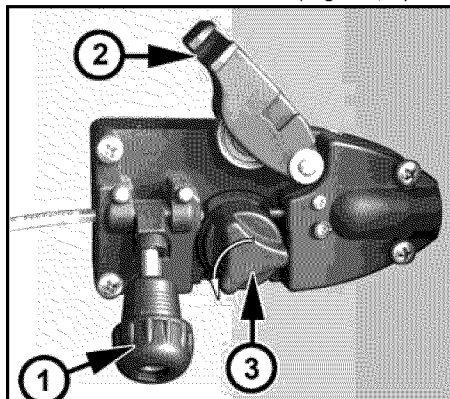
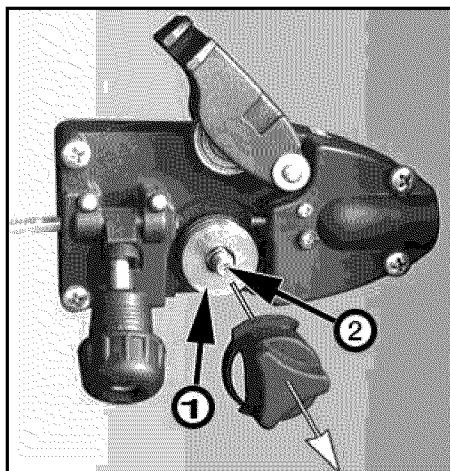

Fig. 2a
Fig. 2b
3. Release the drive tension by loosening and unlatching the Drive Tension Adjusting Knob (Fig. 2a, 1) from the Drive Tension Arm (Fig. 2a, 2). Lift up the Drive Tension Arm (Fig. 2a, 2).
5. Rotate the Drive Roller Cap (Fig. 2a, 3) counterclockwise and remove it from the Drive Roller (Fig. 2b, 1).
6. Pull the Drive Roller off of the Drive Roller shaft. (Fig. 2b, 2)